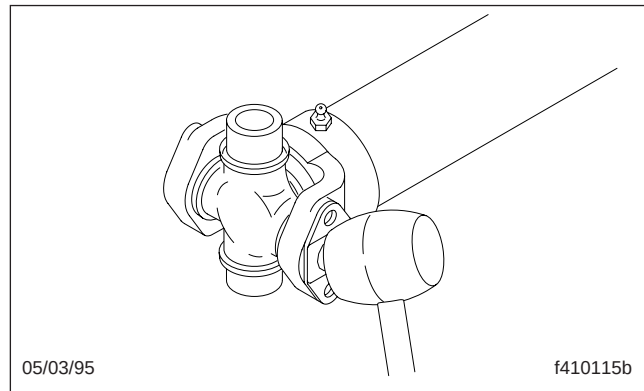

Fig. 9, Seating a U-Joint Bearing Cup In a Full-Round Yoke
- 4.3 By hand, press the bearing-cup-plate flush with the face of the yoke. If the bearing cup binds in the cross-hole, tap the *center* of the bearing-cup plate with a leather or rubber mallet; do not tap the outer edges of the plate. See Fig. 9.